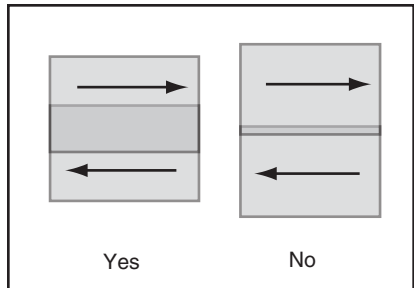

Figure 5. Overlap technique.
11. Overlap each stroke by 50%. This will ensure even coverage, as shown in **Figure 5**. Overlapping less than 50%, as shown in the figure to the right, may lead to missed spots or streaky results.